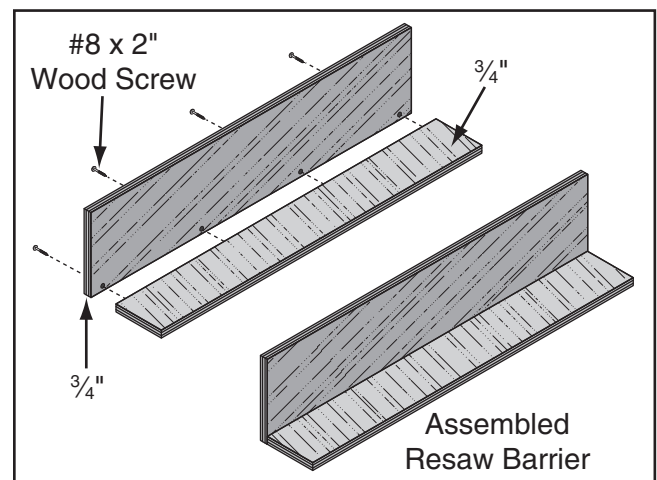

Figure 59. Resaw barrier.
3. Glue the end of the 3" board, then clamp the boards at a 90° angle with the larger board in the vertical position, as shown in **Figure 59**, fasten together with the wood screws.